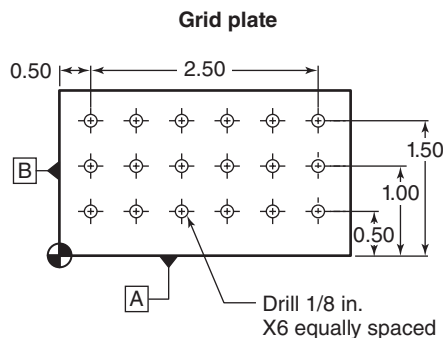

Figure 23-12 Program this *grid plate* using loops.
1. Can you invent a way to drill the grid plate shown in Fig. 23-12 using a loop? Try it yourself but use the commands of your equipment this time, if available. If not, use the words shown in the logic diagrams. There are several solutions to this problem including subroutines but for now, use only one loop.